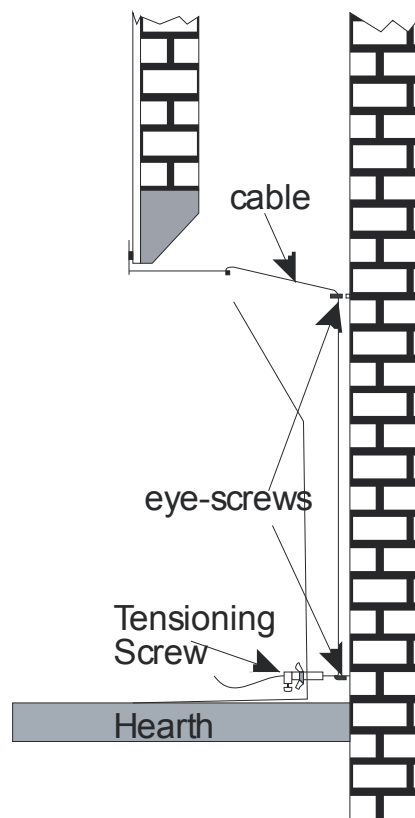

Figure 64
1. With the firebox placed close to the fireplace opening feed the two cables through the matching eye screws (left cable through left hand set of eyelets and the same for right hand cable) and then back into the holes at the bottom rear of the firebox (see **Figure 64**).